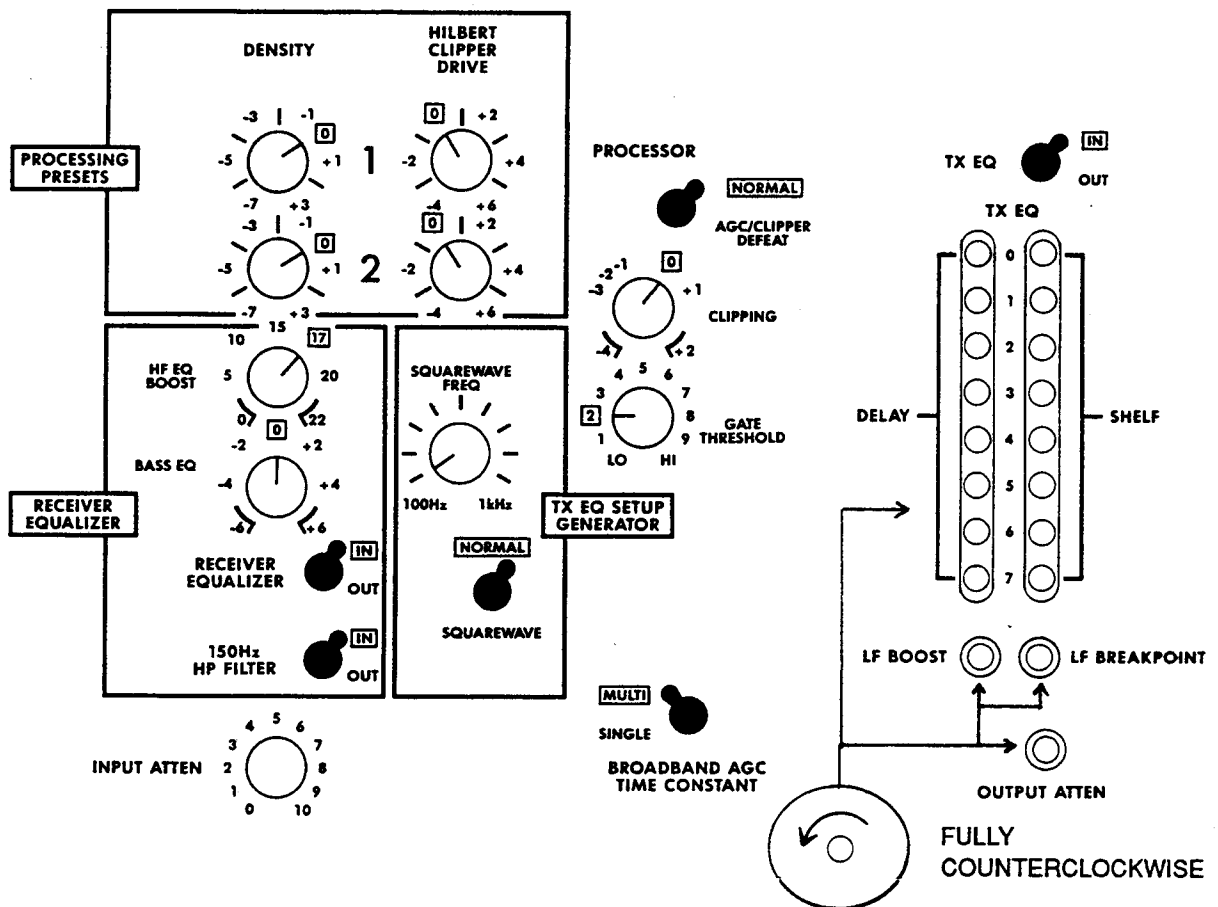

Fig. 2-5: Control Settings for Step 10-B
- B ☐ Set the controls as shown in Fig. 2-5.